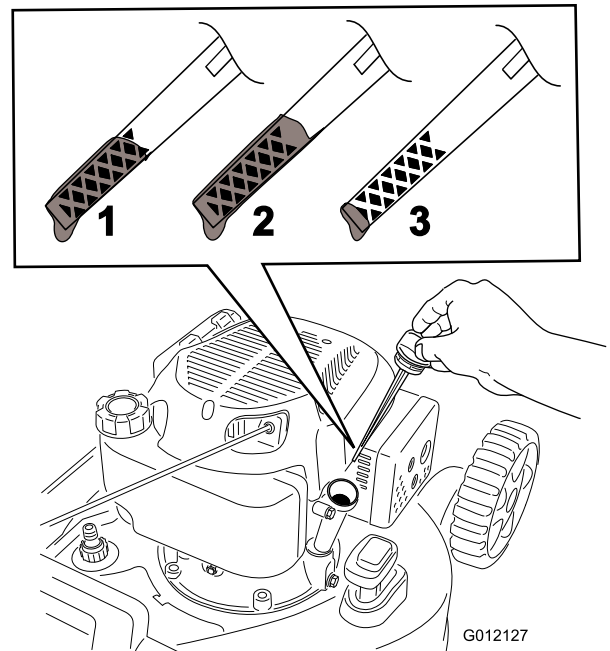

Figure 11
2. Remove the dipstick (Figure 11).
5. Remove the dipstick and read the oil level on the dipstick (Figure 11).